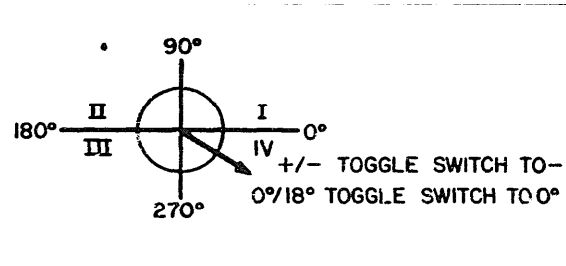

Figure E-4. Input Signal and control Settings
- c. Set Plug-In controls to agree with approximate phase of input signal. Figure E-4 illustrates the Plug-In Control settings, with the arrow representing the input signal phase angle; i. e., 30° lag with respect to reference signal.